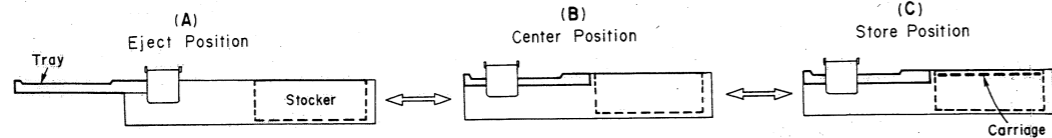

Fig. 9.1.3 Operational Positions
Fig. 9.1.3 shows operational positions of disc. (A): Eject position. (B): Center position. In this position, the disc can be played back. (C): Store position. Carriage is stored into the Stoker.